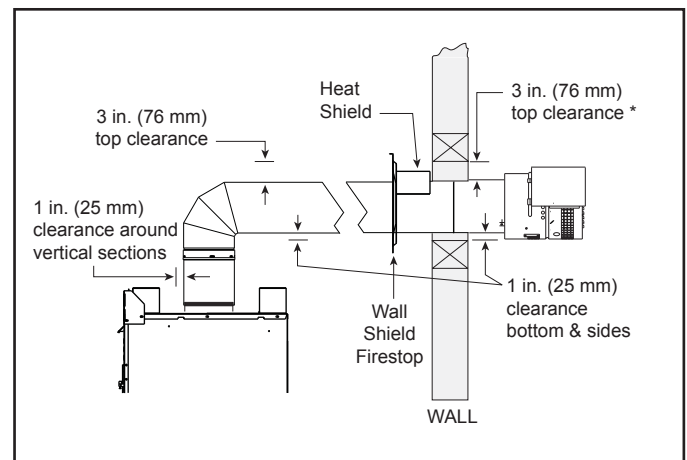

Figure 4.33
6. **CLEARANCES BETWEEN THE VENT PIPE AND COMBUSTIBLE MATERIALS MUST BE MAINTAINED AT 3-INCH TOP, 1-INCH SIDES, AND 1-INCH BOTTOM.** See Figure 4.33.
**NOTE:** The PVK-80 Power Vent must terminate in a **HORIZONTAL** position. See Figure 4.33.